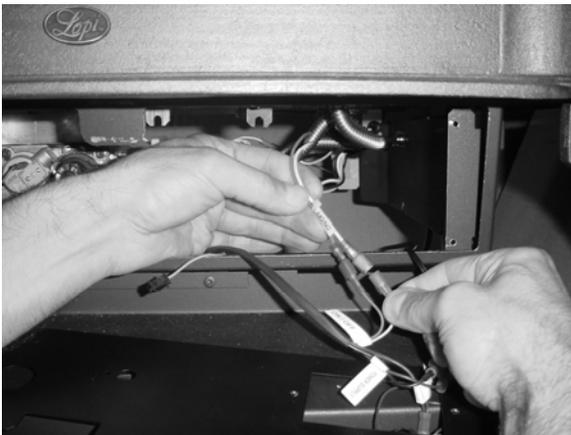
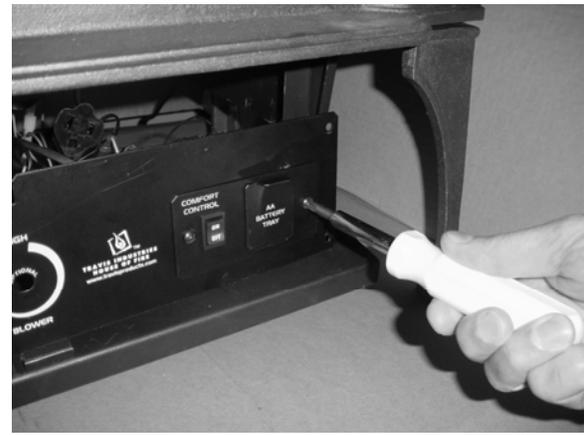

Figure 10
Figure 11
- 7 Disconnect the on/off switch wires (labeled ON/OFF - see Figure 10). Unscrew the on/off/battery plate from the control panel (see Figure 11).